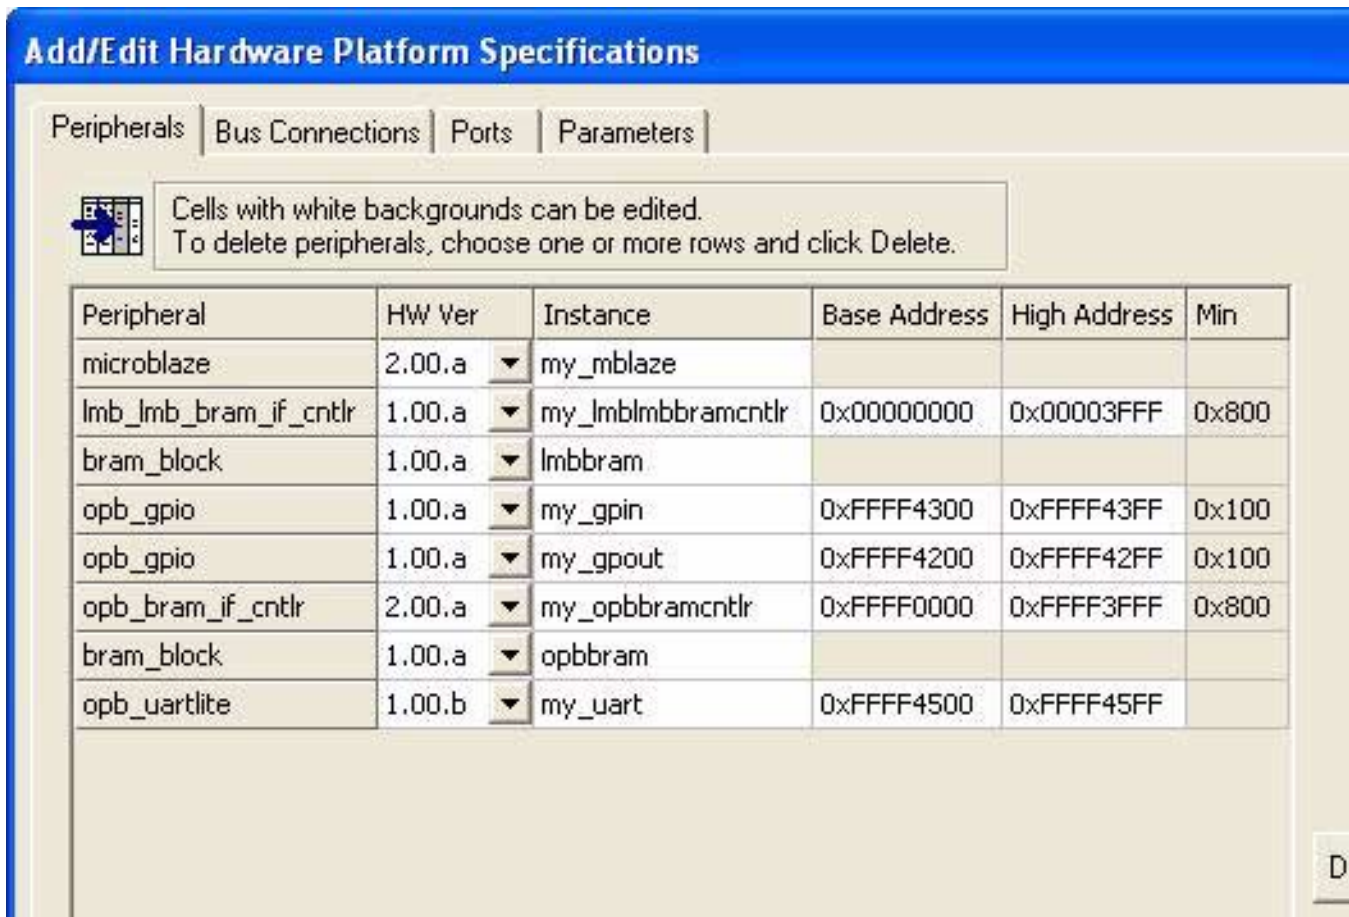

Figure 4: System Settings
2. Modify the peripheral Base Address and High Address settings to match the settings in Figure 4 and in the memory map in Table 1. To modify the address values, double-click the white box and type in the address value in hexadecimal format.